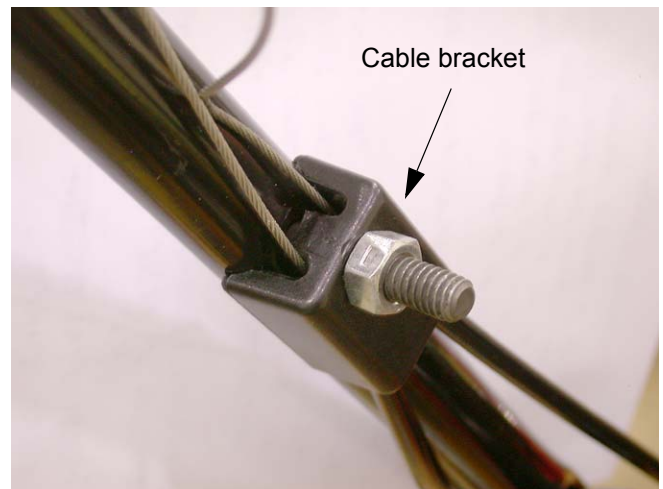

Figure 16.4
- 16.4. Using a 1/2" inch socket and a 1/2" inch box wrench loosen the hex nut securing the cable bracket to the left hand handle bar. See Figure 16.4.